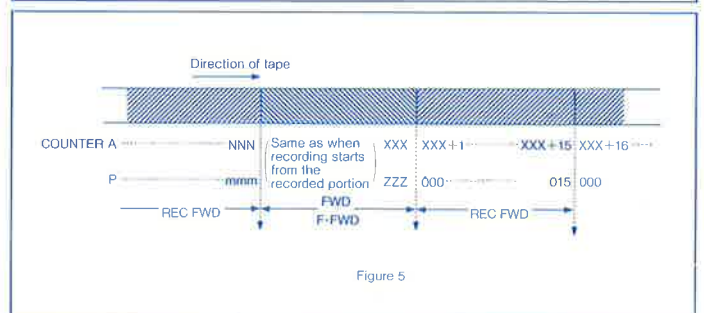

Figure 5
- If a recorded tape is used to record data, this unit reads and displays the counter value of the previous recording and starts the recording the counter value following that value when the cassette tape is loaded. (See Figure 5.)